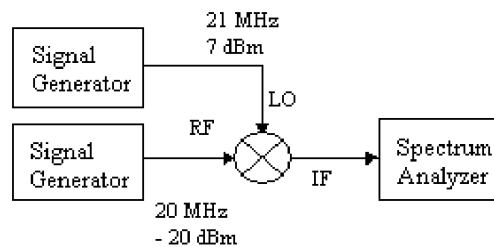

Figure 4.3: Test setup for mixer characterization.
Characterizing the non-ideal behavior of the mixers is important in the design of your FM receiver. The characterization is done using the test setup as shown in Figure 4.3.
1. Assemble the test setup as shown in Figure 4.3.